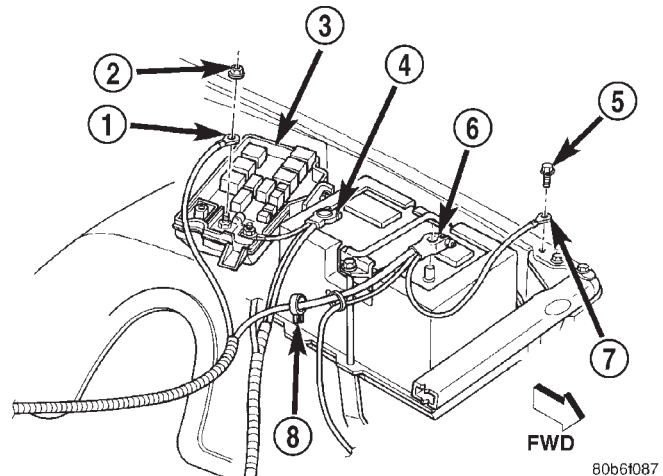

Fig. 14 Power Distribution Center
(1) Disconnect and isolate negative battery cable (both negative cables if diesel).
(2) Remove cover from Power Distribution Center (PDC) (Fig. 14).
(3) Refer to PDC cover for relay identification and location.
(4) Remove starter relay from PDC.